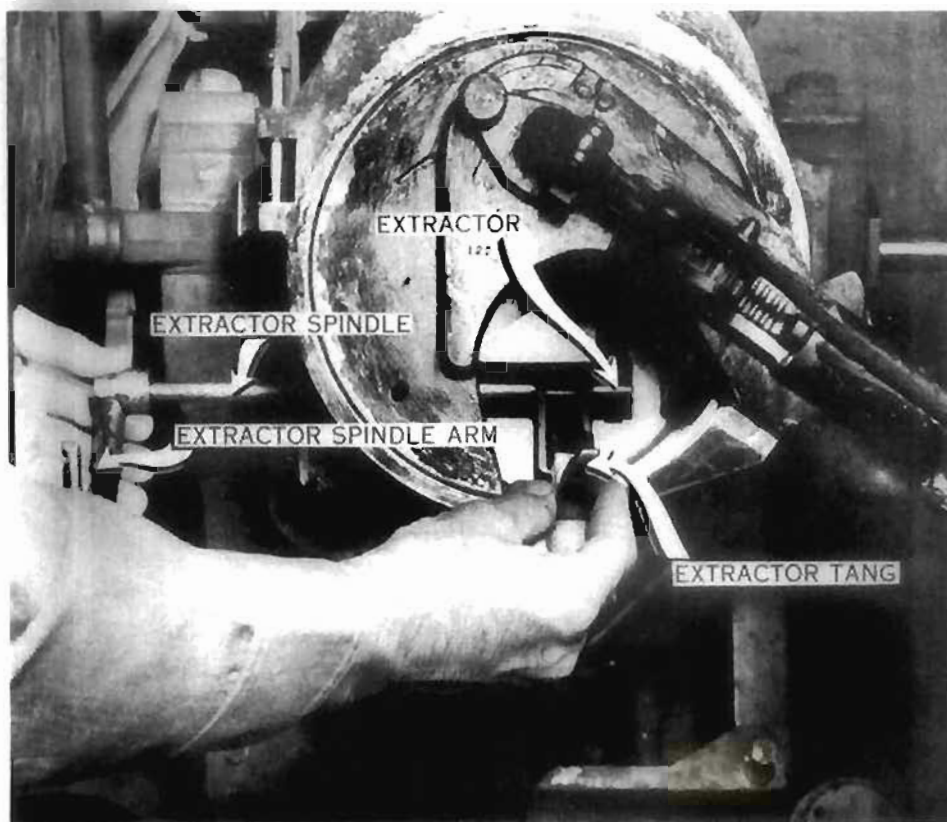

Figure 9
- C. Swing extractor spindle down by extractor spindle arm; pull it to the left just far enough to remove extractor tang (fig. 9).